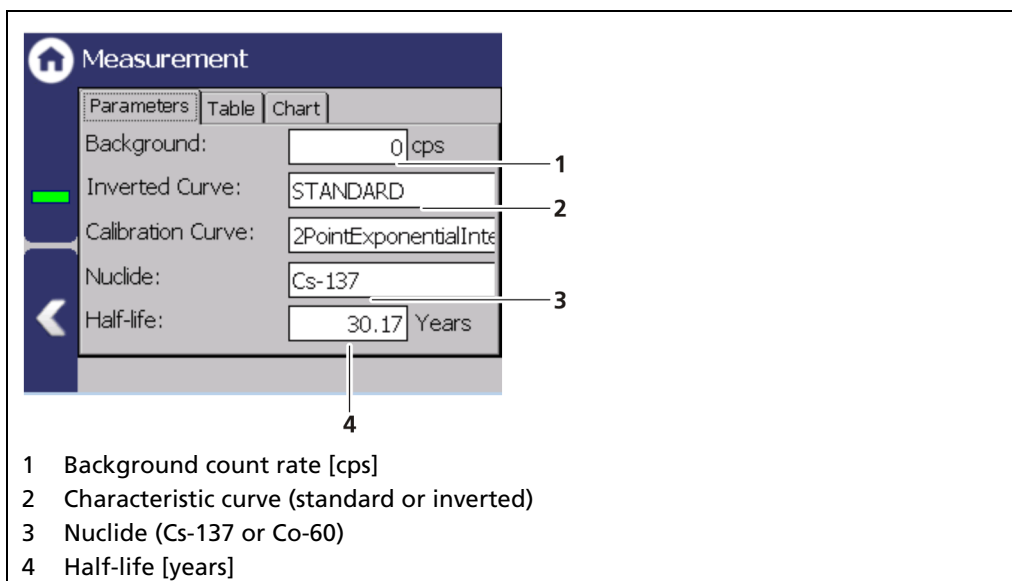

Fig. 99 Measurement (Parameters)
The background count rate (Fig. 99, item 3) indicates the natural background radiation of the gas density detector if no radiation source is installed. This count rate is necessary for the internal decay compensation. The background must be taken if the GPC-detector is a rod detector and it can be taken if the GPC-detector is a point detector.
The maximum factor with which the level count rate may be compensated is specified in the field "Max. GPC Factor" (Fig. 99, item 5). The default value is 3.0.